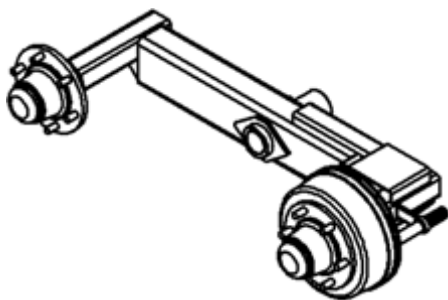

Figure 5. Brakes on one axle
Mounting of forest crane should be performed at the dealer service center or by person authorized by the manufacturer or dealer. Mounting/detaching the crane can also be made by end user, if professional equipment is used, all safety regulations are followed and at least one qualified mechanic is in present during all the mounting/detaching process. Strength class for mounting bolts of slewing device-support legs (pos. 1, fig.5) has to be 12.9 (DIN912). Use self-locking nuts M24. The tightening torque for the mounting bolts of the crane(pos. 1, fig. 5) is 1220 Nm.